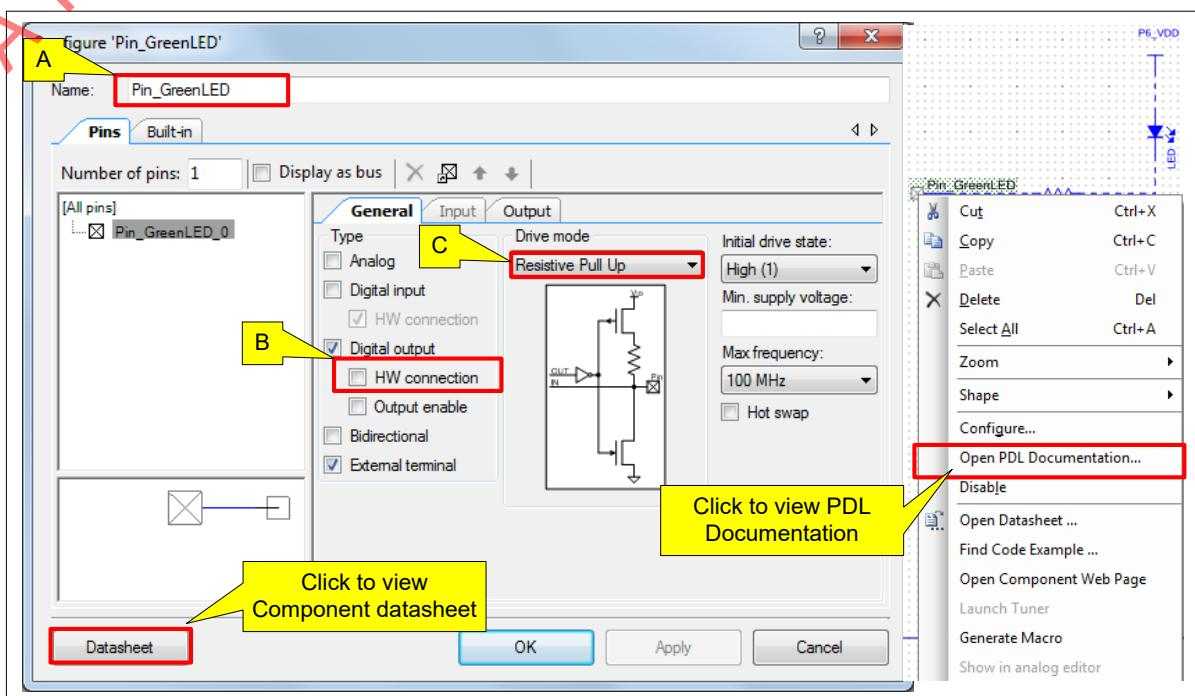

Figure 42 Configuring an output pin component
The output pin drives the LED. The LED on the PSoC™ 6 Wi-Fi-BT Pioneer Kit is active LOW; that is, the logic HIGH pin-drive state turns OFF the LED, and the logic LOW pin-drive state turns it ON. Figure 42 shows the configuration
- You can open the API reference document of the associated PDL driver of a Component by right-clicking the Component and clicking on **Open PDL Documentation...** link. See Figure 42.